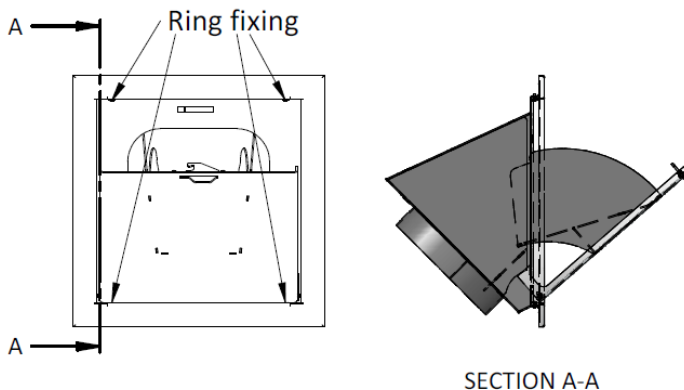

Figure 19 - Equipment installation
- When opening the lid, the inner parts are positioned to facilitate the loading of the pellets, for this reason it is very important that the cargo mouth is always placed in the position shown in Figure 19.